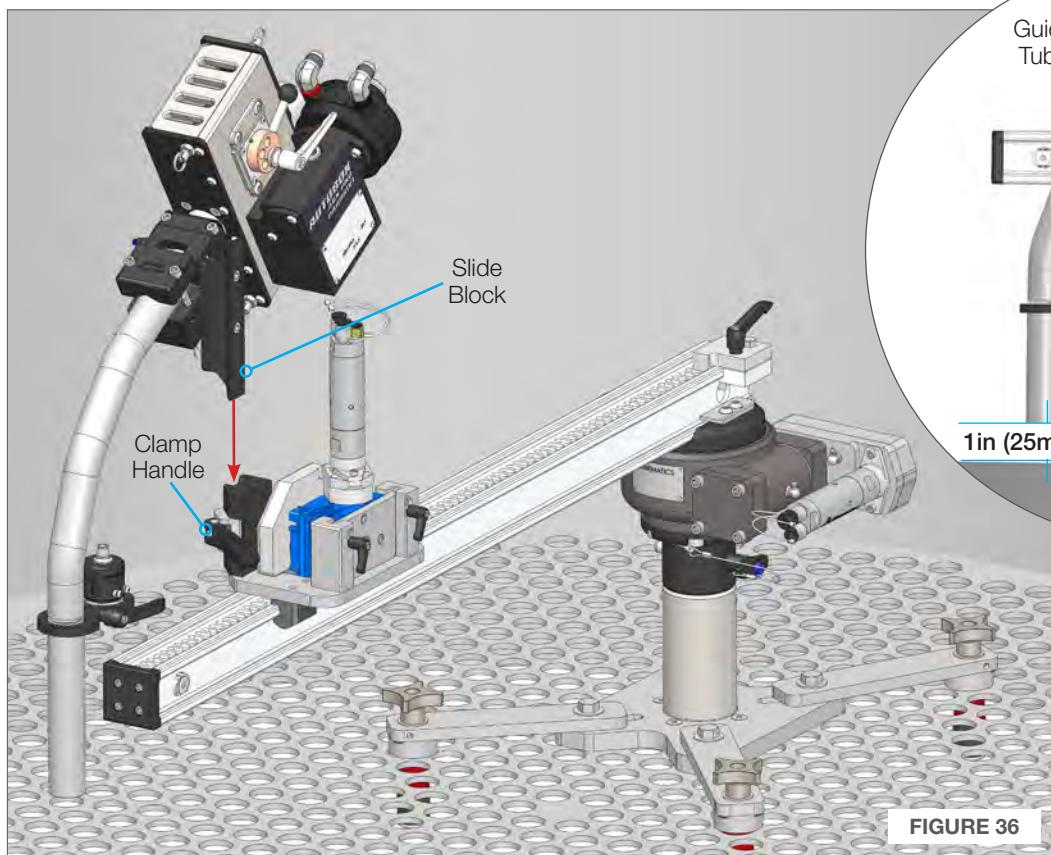

FIGURE 36
21. Insert the Slide Block on the ABX-PRO sub-assembly into the clamp on the Linear Drive. **(Figure 36)**
23. Tighten the Clamp Handle on the Linear Drive when the Guide Tube is set the proper distance off the tube face. **(Figure 36)**